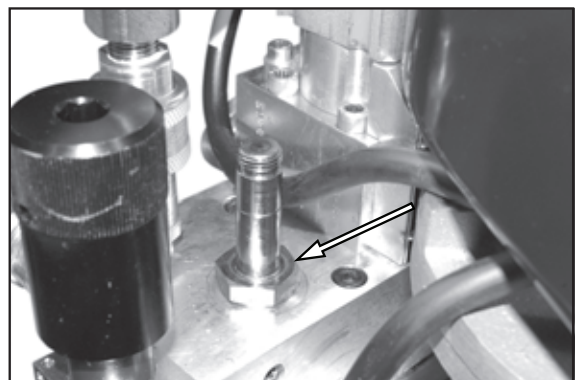

Figure 40.
2. See Figure 40. Remove the 2-way cartridge valve.